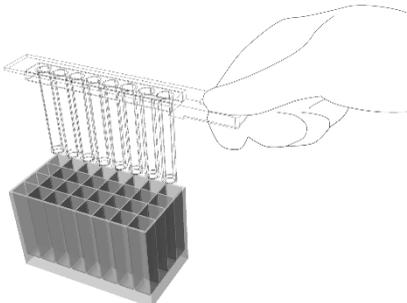

Figure 11. Mixing of content in **column 4** using the rod cover only.
25. Using only the rod cover, mix the contents of **column 4**, by slowly lifting the rod cover to the top of the solution and returning the rod cover to the bottom of the wells 10 times for 4 minutes (Figure 11).